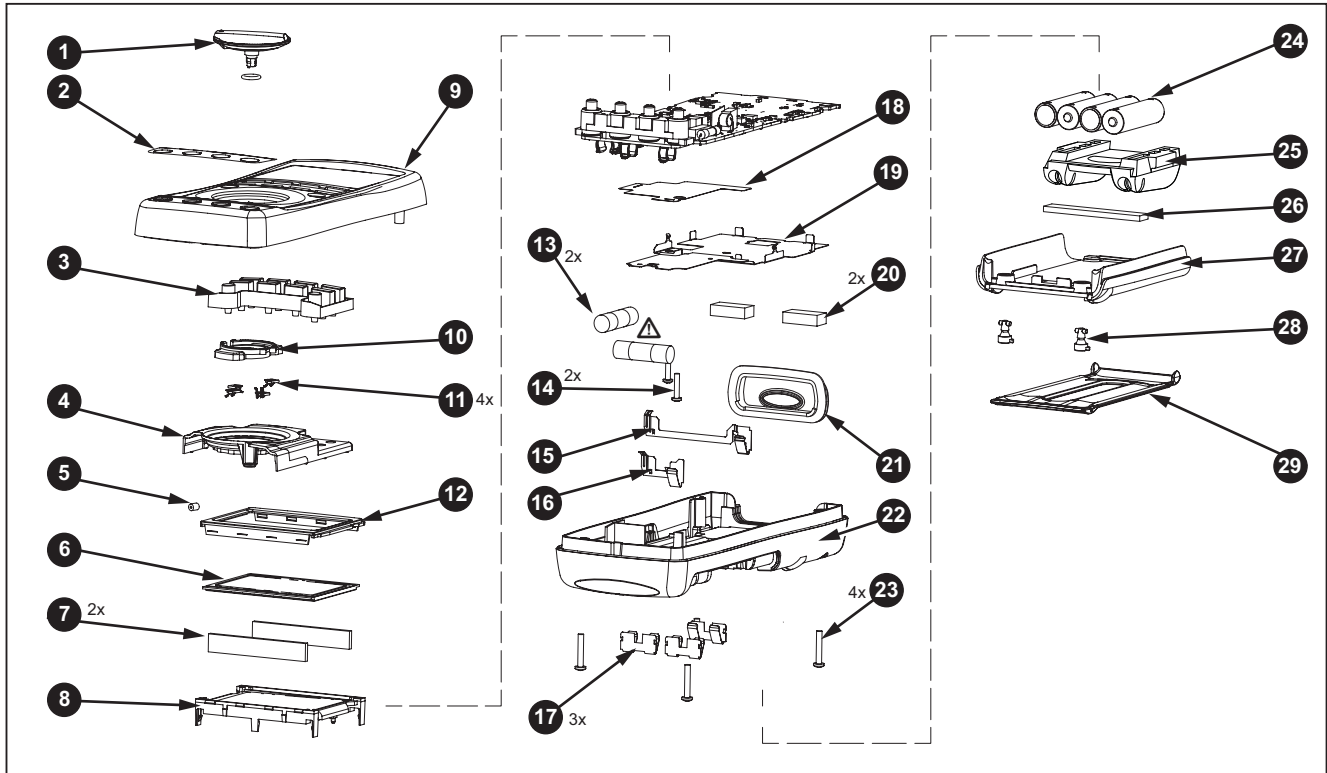

Figure 6. Replacement Parts
- If a fuse is blown, replace it as follows. Refer to Figure 6 as necessary:
Replacement parts and some accessories are shown in Figure 6 and listed in Table 13. Many more DMM accessories are available from Fluke. For a catalog, contact the nearest Fluke distributor.